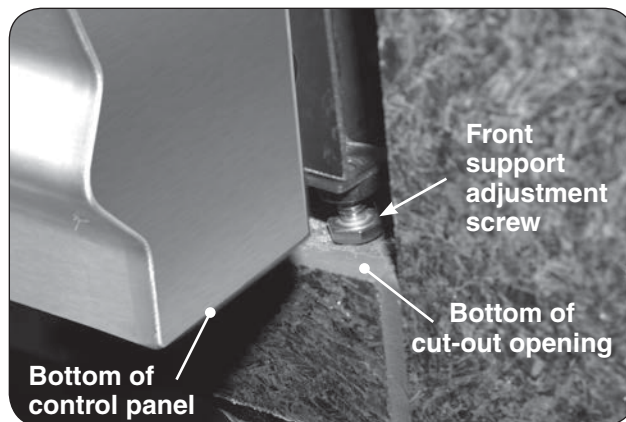

Fig. 21-2 Front support adjustment screws
- Rotate the front support adjustment screws to the left to raise and to the right to lower the respective side of the appliance grill. Use a $\frac{7}{16}$ " open-end wrench as needed. See Fig. 21-2.